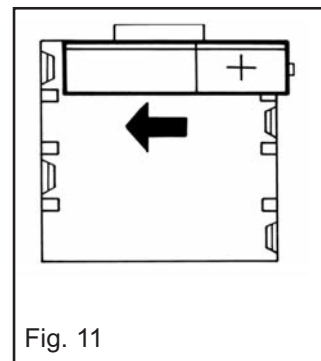

Fig. 11
- Replace batteries commencing with the bottom one working to the top (Fig. 11) Ensure that the negative (-) end of the batteries is under the location pegs in the housing before pushing the other end into position.